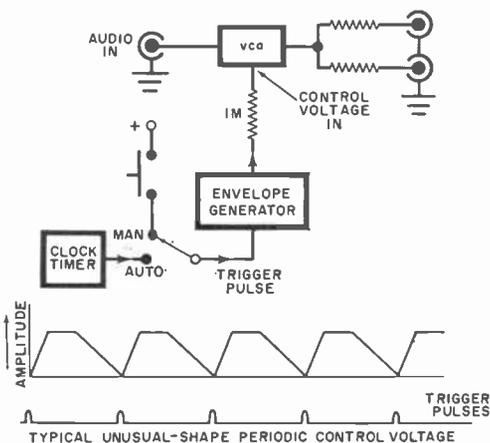

Fig. 5. Block diagram of a voltage-controlled amplifier with two outputs.
**Practical Envelope Generator.** The "Timbre Gate" (April 1971), when broken down into a block diagram, can be illustrated as shown in Fig. 5. It consists of a voltage-controlled amplifier with an audio input and two audio outputs. An envelope generator with adjustable rise, on, and fall times generates the control voltage for the vca.